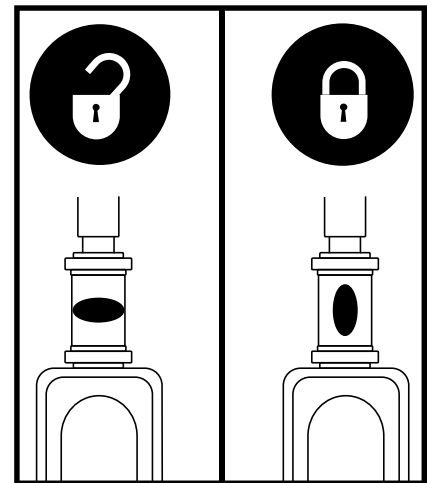

Figure 32. Tiller Lock Knob
2. Lock the tiller in the straight ahead position by pushing the tiller lock knob in and turning it clockwise 90°. See **figure 32**. The front wheel must face forward in order to lock the tiller.
1. Remove the key from the key switch and then lock the tiller in the straight ahead position by pushing the tiller lock knob in and turning it clockwise 90°. See **figure 32**. The front wheel must face forward in order to lock the tiller.
6. Unlock the tiller by turning the tiller lock knob 90° counterclockwise. **See figure 32.**